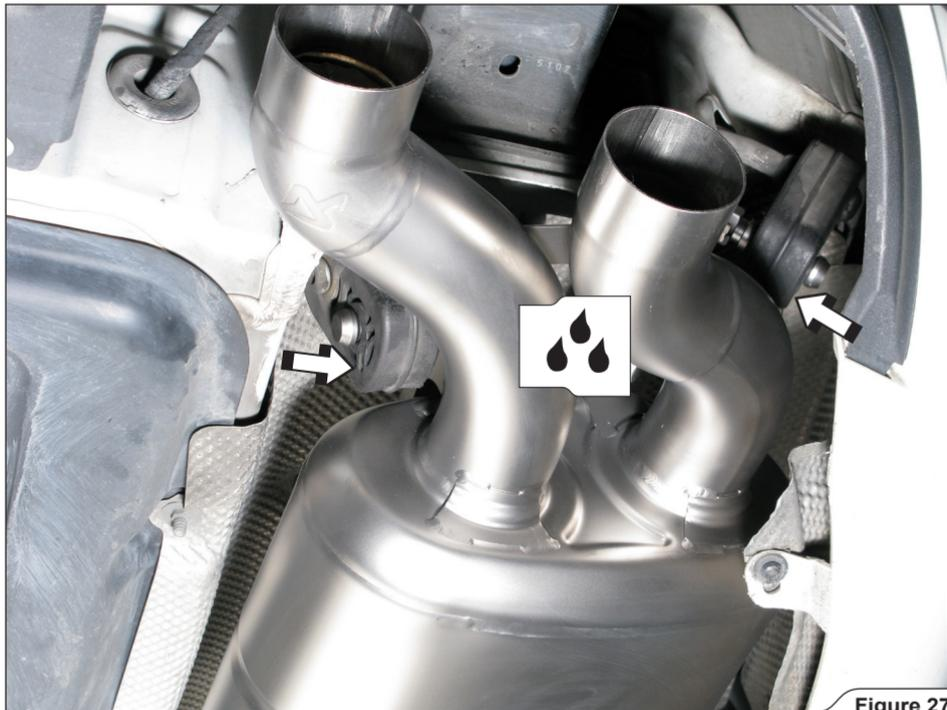

Figure 27
11. For Slip-On and Evolution: hang the mufflers on the stock rubber brackets (Figure 27, 28).